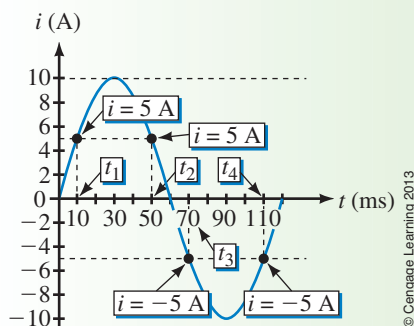

FIGURE 15-30
- Mark the end of the cycle as 120 ms, $\frac{1}{2}$ cycle as 60 ms, $\frac{1}{4}$ cycle as 30 ms, and so on. Draw the sine wave so that it is zero at $t = 0$, 10 A at 30 ms, 0 A at 60 ms, -10 A at 90 ms, and ends at $t = 120 \text{ ms}$. (See Figure 15-30.)
- Consider Figure 15-30. As you can see, there are two points on the waveform where $i = 5$ A. Let these be denoted t_1 and t_2 , respectively. First, determine ω :
Thus, $t_1 = \alpha_1/\omega = (0.5236 \text{ rad})/(52.36 \text{ rad/s}) = 0.01 \text{ s} = 10 \text{ ms}$. This is indicated in Figure 15-30. Now consider t_2 . Because of symmetry, t_2 is the same distance back from the half-cycle point as t_1 is in from the beginning of the cycle. Thus, $t_2 = 60 \text{ ms} - 10 \text{ ms} = 50 \text{ ms}$.
If a sine wave does not pass through zero at $t = 0$ s as in Figure 15-30, it has a **phase shift**. Waveforms may be shifted to the left or to the right (see Figure 15-31). For a waveform shifted left as in (a),